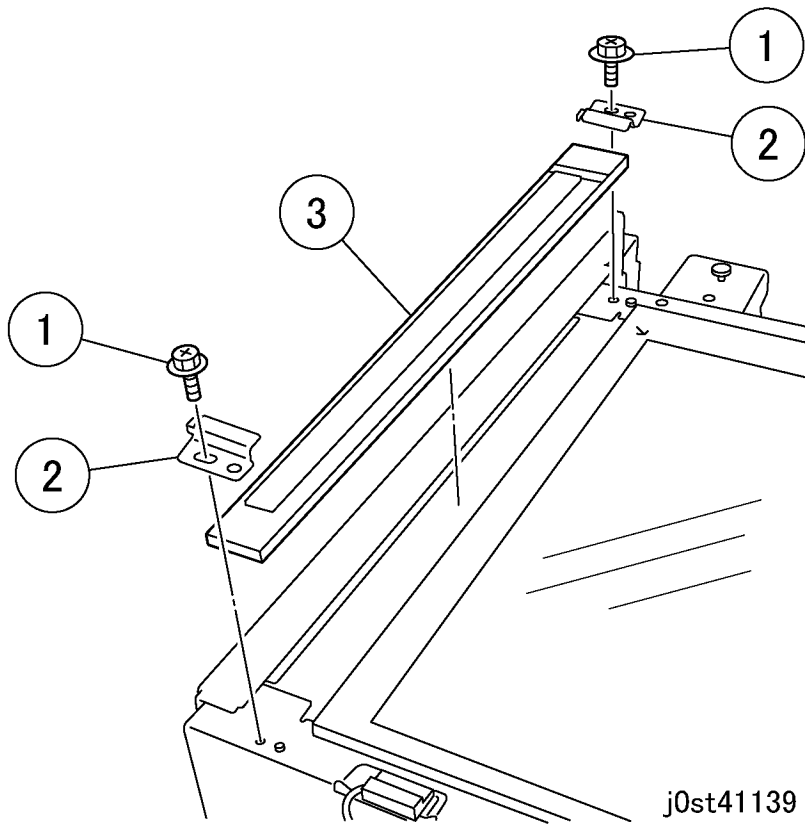

Figure 2 Removing the CVT Glass
5. On DADF models, remove the CVT Glass (Figure 2).